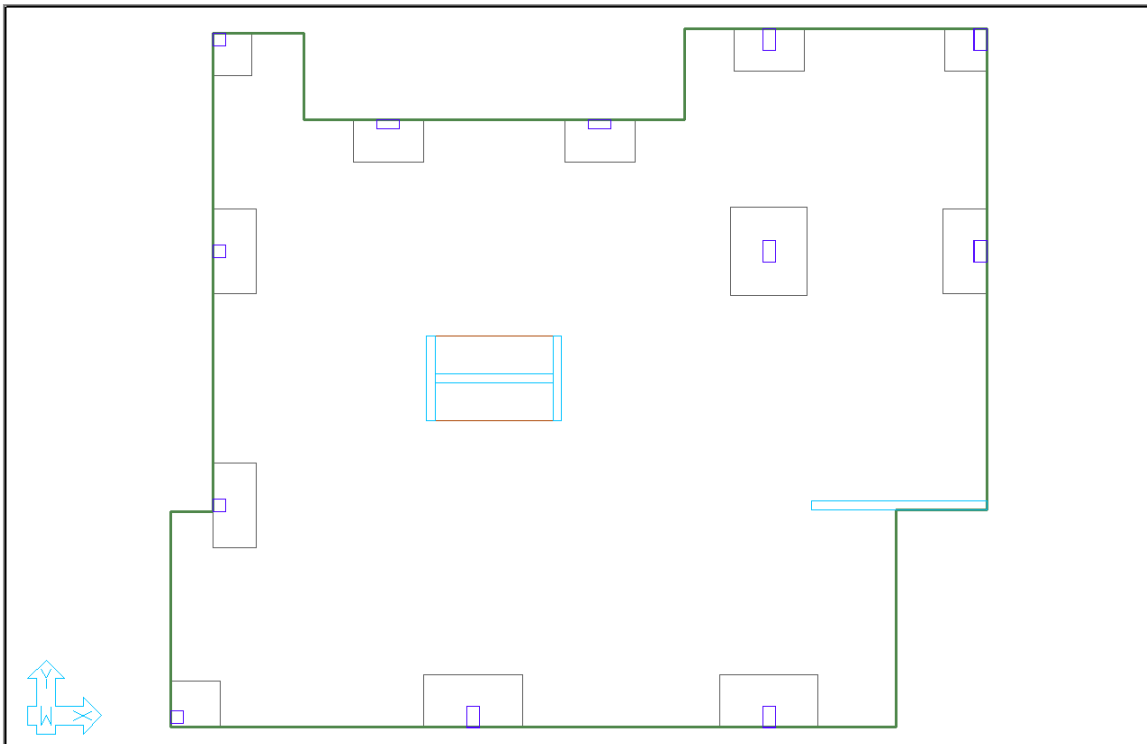

FIGURE 10-22
- You should now see the model as shown in **FIGURE 10-22**.